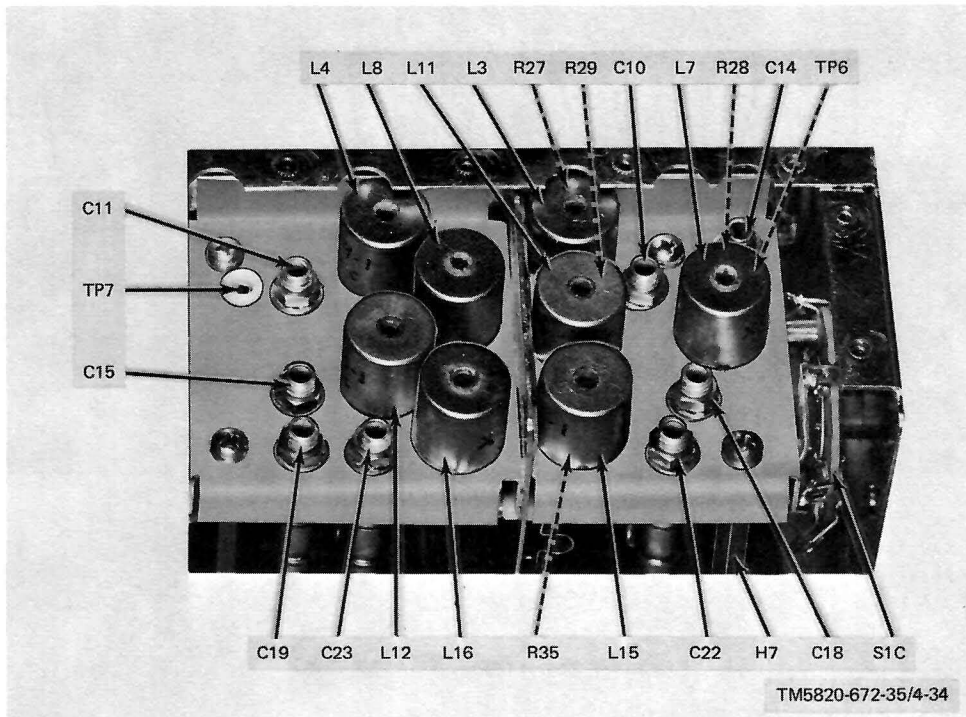
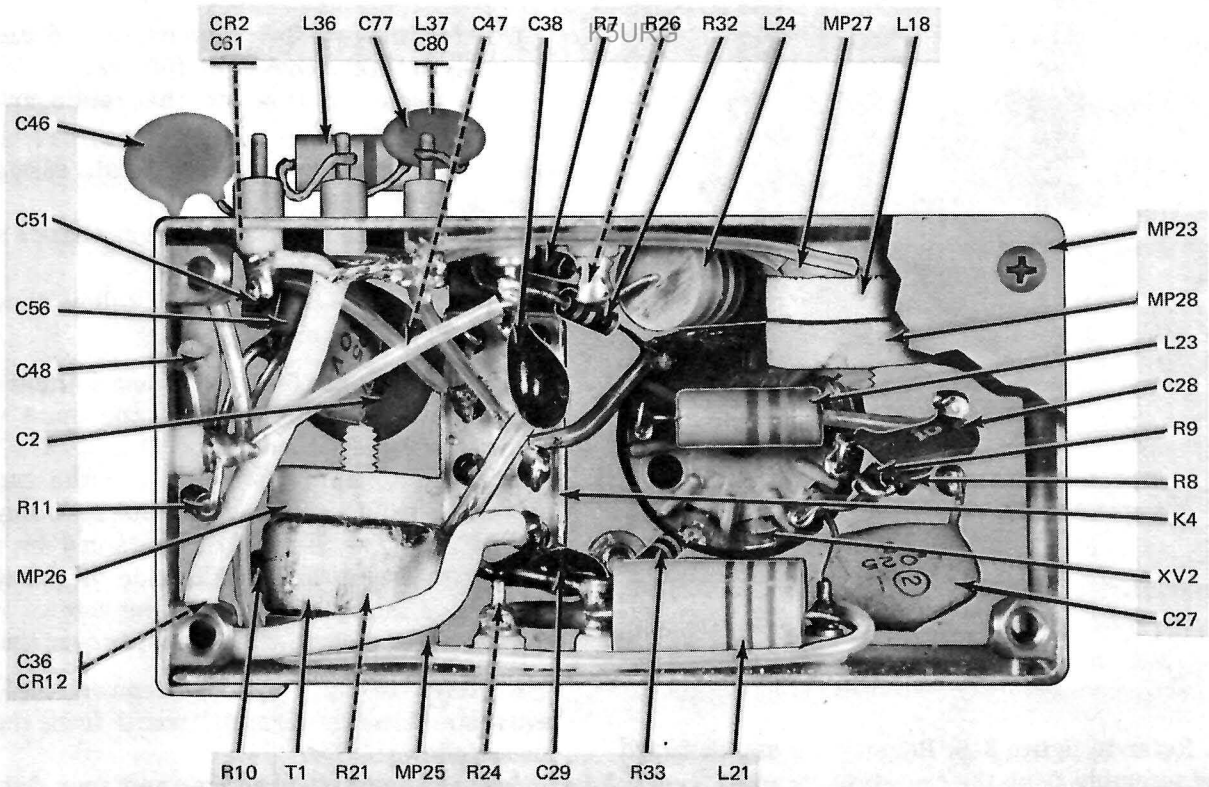
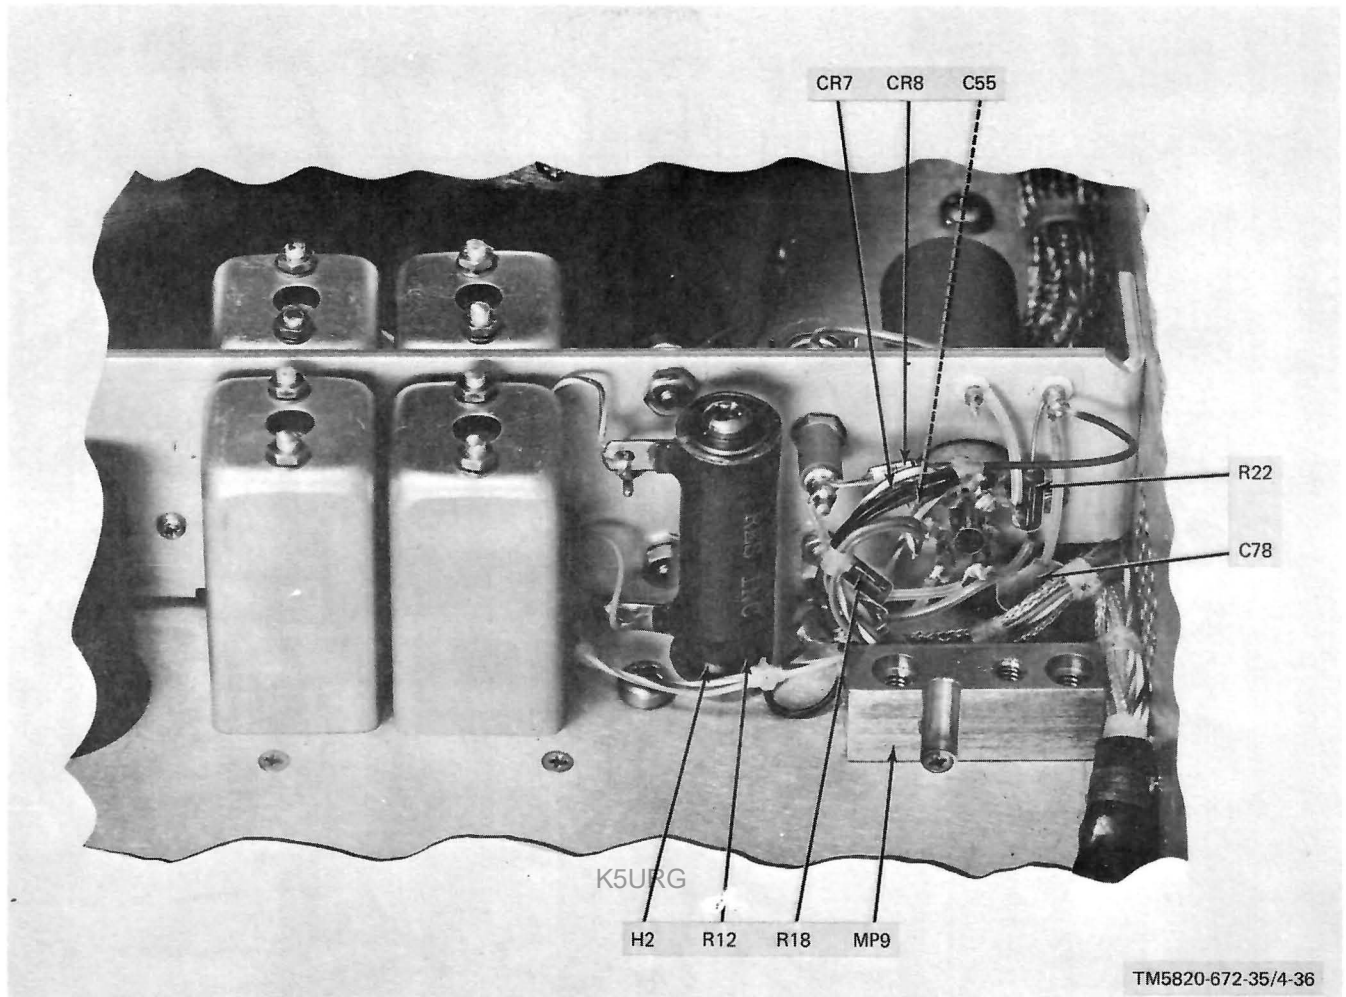

Figure 3-6. Second double-tuned filter.
Figure 3-7. Output RF amplifier.
Figure 3-8. Chopper input circuit.
e. Refer to figure 3-6. Remove the double-tuned filter assembly from the chassis as follows:
- (1) Remove nine screws that retain cover.
- (2) Remove four screws and four lockwashers that retain assembly to chassis.
(3) Lift assembly away from chassis to limits of attached wires.
(4) For correct reassembly, follow above procedures in reverse order.
f. Refer to figure 3-7. Remove the RF amplifier assembly from the chassis as follows:
- (1) Remove four screws that retain cover.
- (2) Remove three screws and three lockwashers and one *glyped* screw that retain assembly to chassis.
- (3) Lift assembly away from chassis to limits of attached wires.
- (4) For correct reassembly, follow above procedures in reverse order.
g. Refer to figure 3-8. The chopper input circuit components mount directly to the main chassis and can be removed individually.